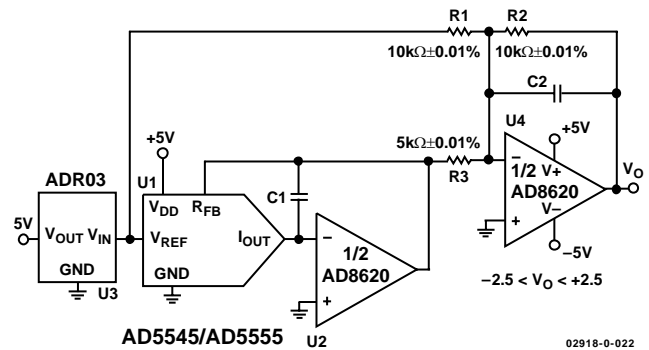

Figure 23. Four-Quadrant Multiplying Application Circuit
In some applications, it may be necessary to generate the full 4-quadrant multiplying capability or a bipolar output swing. This is easily accomplished by using an additional external amplifier, U4, configured as a summing amplifier (see Figure 23). In this circuit, the second amplifier, U4, provides a gain of 2, which increases the output span magnitude to 5 V. Biasing the external amplifier with a 2.5 V offset from the reference voltage results in a full 4-quadrant multiplying circuit. The transfer equation of this circuit shows that both negative and positive output voltages are created because the input data (D) is incremented from code zero (VOUT = -2.5 V) to midscale (VOUT = 0 V) to full scale (VOUT = +2.5 V).